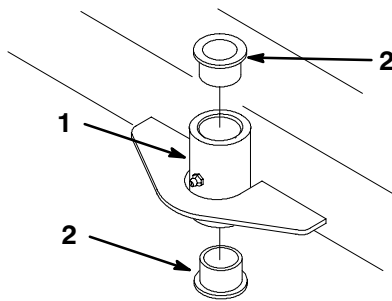

Figure 22
5. Using a pin punch, drive the bushings out of the bracket (Fig. 22).
8. Using a hammer and a flat plate, drive the bushings into the bracket (Fig. 22)